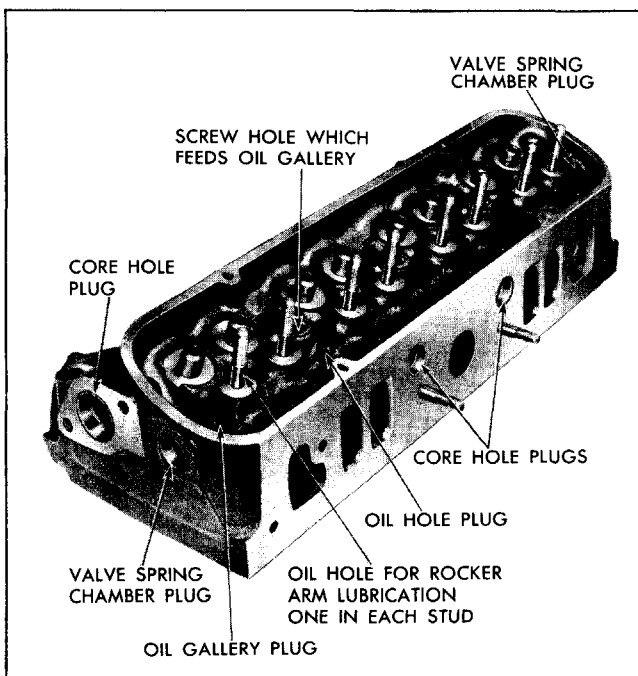

Fig. 6-35 Left Cylinder Head—Viewed from Right Rear
1. Inspect valves and seats to determine condition before cleaning. Also check oil and water passage plugs for evidence of leakage (Figs. 6-35 and 6-36).
- c. Check oil passages from oil gallery through rocker arm studs. A simple test can be made using a rubber hose and smoke. Block lower end of cylinder head screw hole which feeds oil gallery (Fig. 6-35) and blow smoke in top end of hole through rubber hose. Smoke should come out hole in each stud.